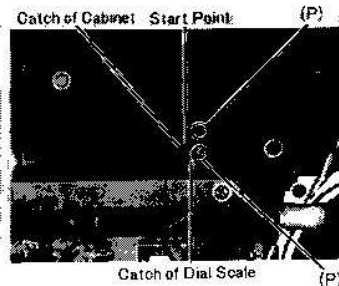

Fig. 11
- After mounting the PC board (IF, RF circuit), turn the dial scale by pushing the catch of dial scale and set the start point of dial scale to the catch of cabinet, as shown in fig. 11.
- Tighten the two (2) screws (P) for the dial scale gear, as shown in fig. 11.